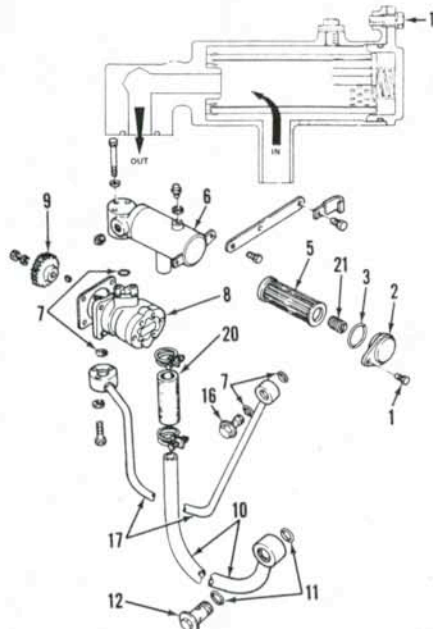

Fig. 254—Hydraulic filter (5) is located in housing on top of pump on 1300 and 1310 models.
opening are located in transmission top cover. The hydraulic filter (5—Fig. 254 or 255) is located in housing attached to top of hydraulic pump on 1300, 1310 and
Fig. 255—Hydraulic system filter (5) is positioned vertically above pump (8) on right front corner of engine on 1500 models. Refer to Fig. 254 for legend except for the following.